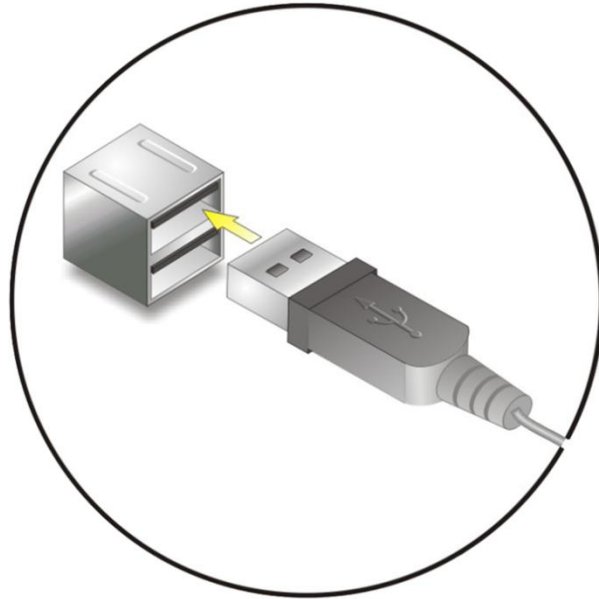

Figure 7 – USB Device Connection
Step 2: Align the connectors. Align the USB device connector with one of the connectors on the bottom panel. See Figure 7.